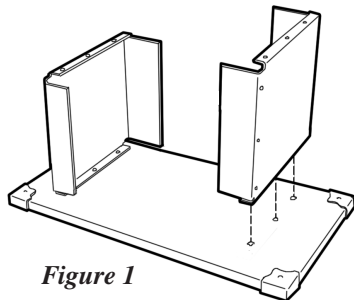

Figure 1
3. Using machine screws, lock washers and hex nuts, attach the pedestal sides (#15) to the pedestal base (#18), figure 1.